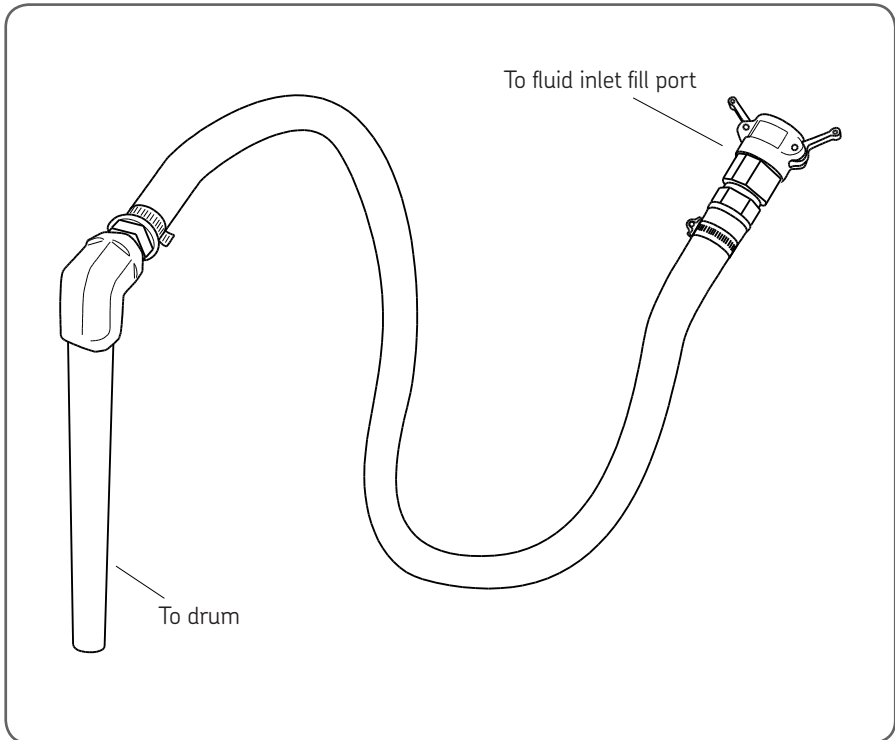

Fig 11 Suction hose assembly
1. Locate the suction hose assembly. Each tank will have its own individual suction hose assembly. See figure 11.